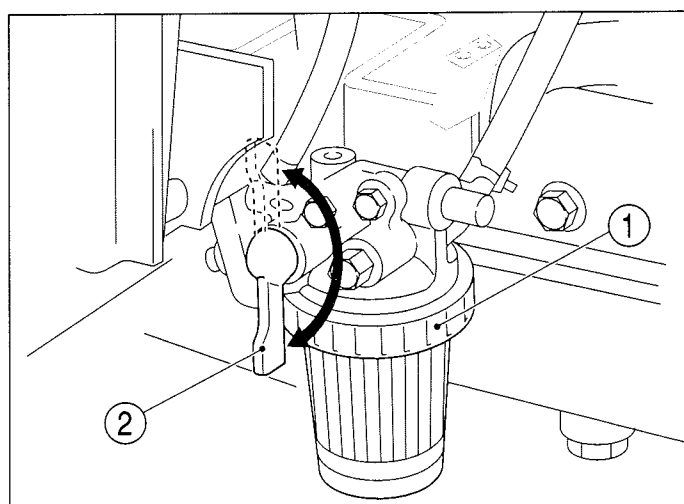

FIG. 88
FIG. 88: Fuel filter assembly (1) is located at the right side of the engine, and is used to strain impurities from fuel before fuel reaches the injection pump. The fuel filter incorporates the valve (2) to aid in filter servicing.